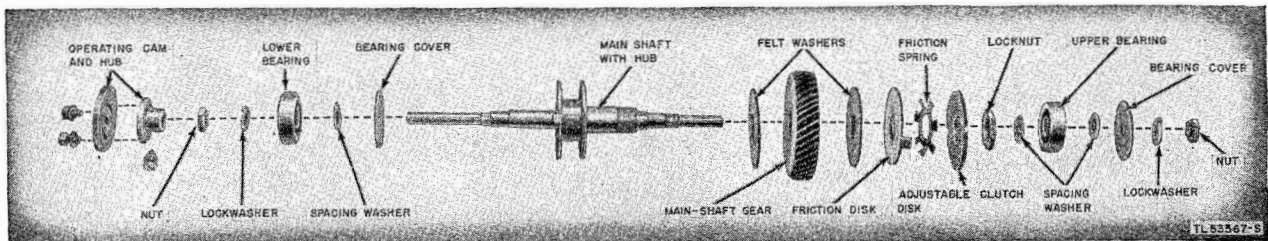

Figure 40. Main shaft, disassembled.
- (1) Remove the main shaft by following the procedure described in *b* above.
- (2) Remove the transmitter distributor base plate.
- (3) Remove the three main-shaft bracket mounting screws from the under side of the base and lift the bracket off the base.
**d. DISASSEMBLY OF MAIN SHAFT (fig. 40).**
- (1) Remove the main shaft.
- (2) Remove the upper bearing retaining nut and lockwasher, and slip off the bearing cover, spacer washers, and the bearing. Remove the operating cam hub and the lower bearing retaining nut and lockwasher. Slip off the lower bearing, spacing washer, and the bearing cover.
- (3) Place a No. 76289 tool in a notch of the adjustable disk of the friction clutch. Loosen the locknut. Unscrew both the locknut and the adjustable disk and slip off the friction spring, friction disk, upper felt friction washer, main-shaft gear, and the lower felt friction washer.